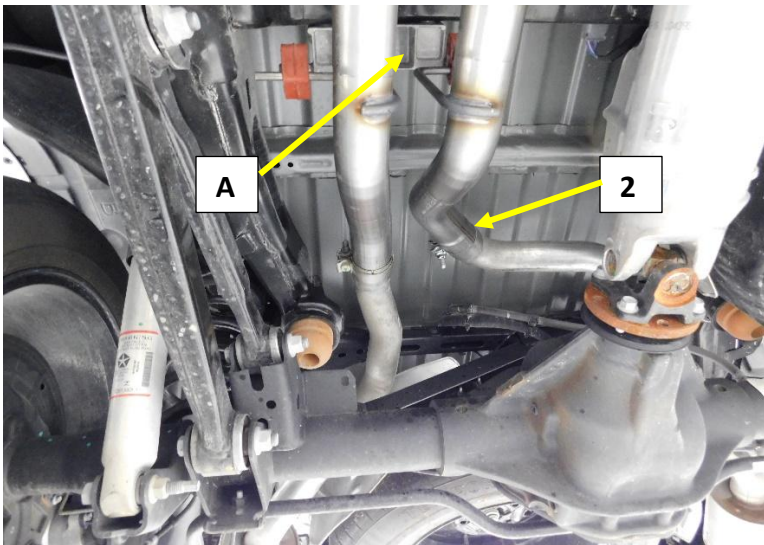

Figure. 4
1. Install the 2.5" band clamp **(2)** on to the 718195 Direct fit muffler left tail pipes expanded end. Position the clamp with the bolt towards the rear of the vehicle and nut facing down. **Fig.4**
2. Install the Muffler hanger bracket **(A)** on to the tail pipe hanger rods. Be sure the bracket is facing the correct way. **Fig. 4**
3. Position the muffler assembly into the vehicle and align the left and right Muffler outlet pipes to the Left and Right tail pipes. Work the tail pipes into the slip joints working left to right as they begin to slip together. Do not tighten the clamps . **Fig.4**
5. Align the Muffler rear hanger assembly **(A)** to the studs on the frame and install the (2x) 13mm nuts. **Fig.4**